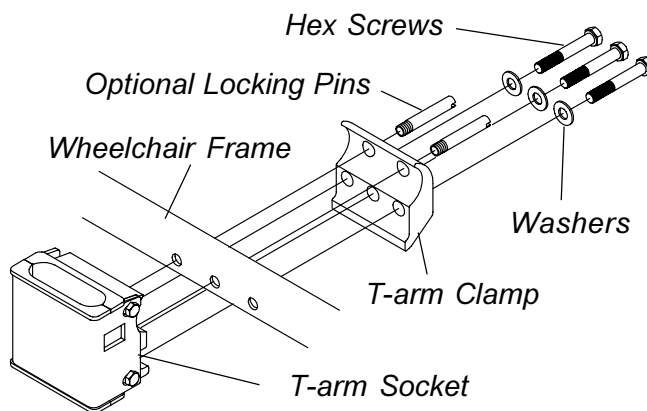

FIGURE 2 - INSTALLING THE T-ARM SOCKETS
INSTALLING THE T-ARM SOCKETS (FIGURE 2)
2. Position the T-arm socket and T-arm clamp on the wheelchair frame as shown in **FIGURE 2**.
*NOTE: If desired, optional locking pins can be installed to secure the T-arm brackets to the wheelchair frame, as shown in **FIGURE 2**.*